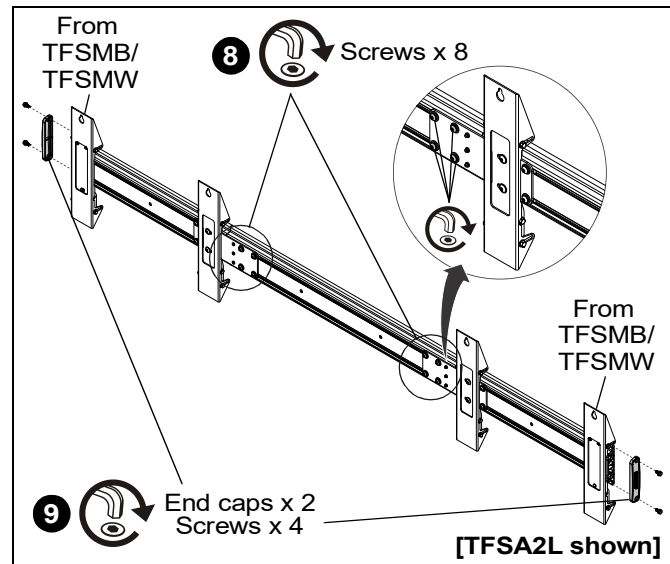

Figure 7
9. Tighten eight 2518 x 1-1/2" screws loosened in Step 2. (See Figure 7)
10. Add one end cap to the ends of the extrusion assemblies and install two 1/4-20 x 1/2" self-tapping hex screws for each end cap. (See Figure 7)